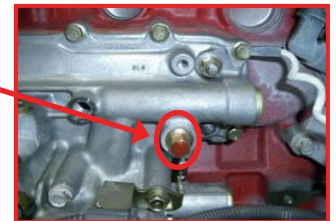

Figure 3
2) **DRAIN COOLANT**- use clean container to reserve the coolant for reuse. Connect hose to drain pipe of oil cooler and drain system. (See Figure 3)